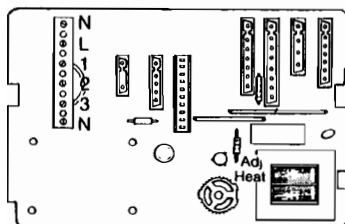

Fig. 21
The terminal block is easily visible on the left of the printed circuit board (fig. 21)
- 5.7.4** Pass the cable through the cord anchorage and connect it so that should the cable slip the anchorage the current carrying conductors become taut before the earthing conductor. (fig. 21)
Refer to fig. 24 to determine pressure for the heating output you need. Use a screwdriver to adjust the potentiometer (fig. 21) until the required pressure is indicated on the gauge. Once this pressure has been fixed it should be indelibly recorded on the label provided and affixed next to the data badge. This is to ensure that the burner can be reset when any service operation involves alteration of burner settings.